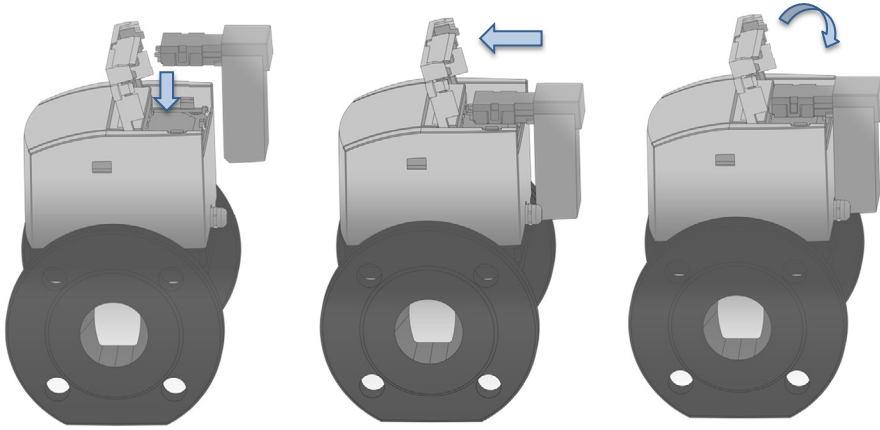

Fig. 30: Inserting module, pushing it into place and closing the module lid
**Step 3:** Mounting of a communication module, as shown in Fig. 30.